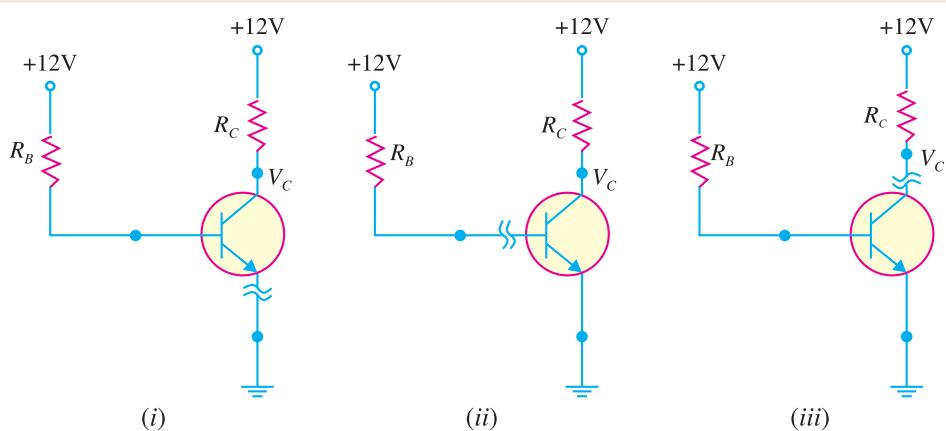

Fig. 8.27
**Example 8.20.** Fig. 8.27 shows the open circuit failures in a transistor. What will be the circuit behaviour in each case ?
**Solution.** \*Fig 8.27 shows the open circuit failures in a transistor. We shall discuss the circuit behaviour in each case.
**(i) Open emitter.** Fig. 8.27 (i) shows an open emitter failure in a transistor. Since the collector diode is not forward biased, it is **OFF** and there can be neither collector current nor base current. Therefore, there will be no voltage drops across either resistor and the voltage at the base and at the collector leads of the transistor will be 12V.
**(ii) Open-base.** Fig. 8.27 (ii) shows an open base failure in a transistor. Since the base is open, there can be no base current so that the transistor is in **cut-off**. Therefore, all the transistor currents are 0A. In this case, the base and collector voltages will both be at 12V.
**(iii) Open collector.** Fig. 8.27 (iii) shows an open collector failure in a transistor. In this case, the emitter diode is still **ON**, so we expect to see 0.7V at the base. However, we will see 12V at the collector because there is no collector current.